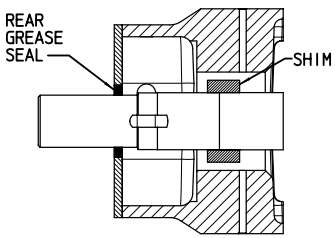

FIGURE 15
12. Remove shims. If they will be reused identify the shaft on which they were used. Press out and discard rear grease seals. Refer to **Figure 15**.